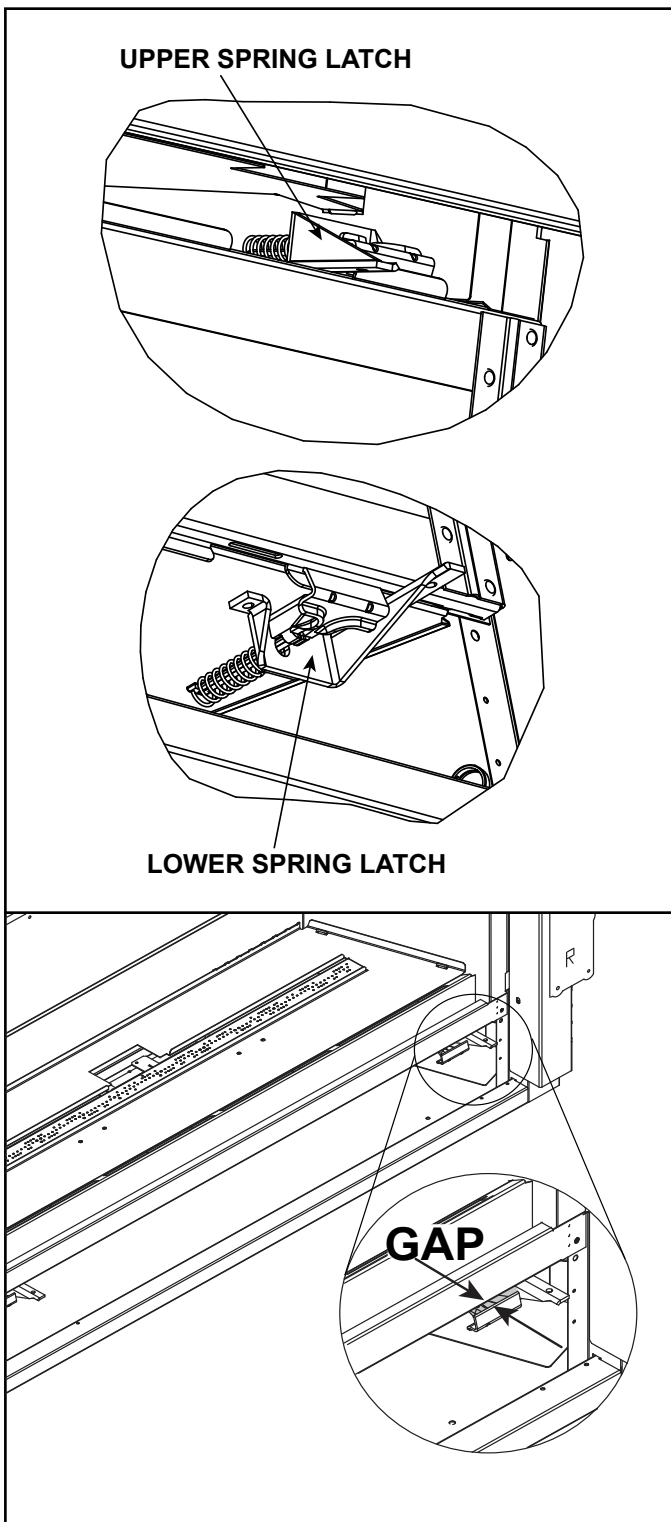

Figure 11.3 Fixed Glass Assembly
2. The glass assembly has two upper spring latches and two lower spring latches. See Figure 11.3. Locate the two spring latches that are on the upper left and right of the fireplace.
**Note:** Observe the presence of a space or gap between the glass latch and the front of the appliance where the bottom of the glass assembly is positioned. This gap is designed for positive placement when replacing the glass assembly. See Figure 11.3.
The bottom glass latches have been designed to create a small gap between the glass clip and the face of the appliance. See Figure 11.3.